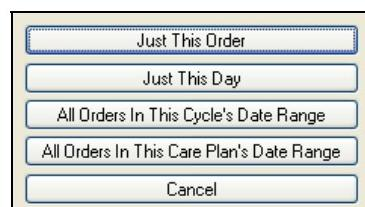

Figure 9: Approve Menu
- 2 Click **Approve** to open the Approve menu shown in Figure 9.